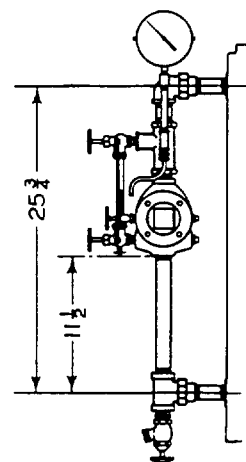

FIG. 10—Low Water Cutoff
1. Assemble low water cutoff and water column piping as shown in Fig. 10 and attach to boiler as shown in Fig. 9. Assemble the working mechanism to the low water cutoff with gasket and screws (furnished in separate package). Make steam gage connection with nipple and tee to $\frac{1}{4}$ " tapping on upper part of low water cutoff. Connect steam control element on automatic gas valve with steam gage tee using copper tubing and connectors. Fill tubing with water and screw steam gage into tee.